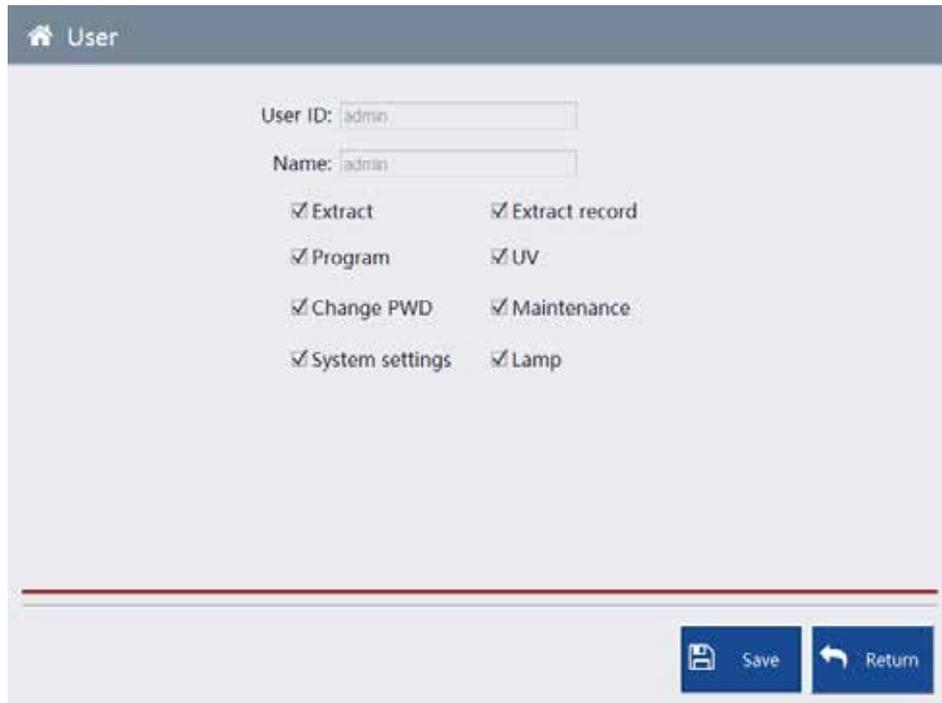

Figure 4-28 User Management-Permissions
**Permission:** Click the "Permission" button to configure the functional modules that each user can enter, as shown in Figure 4-28